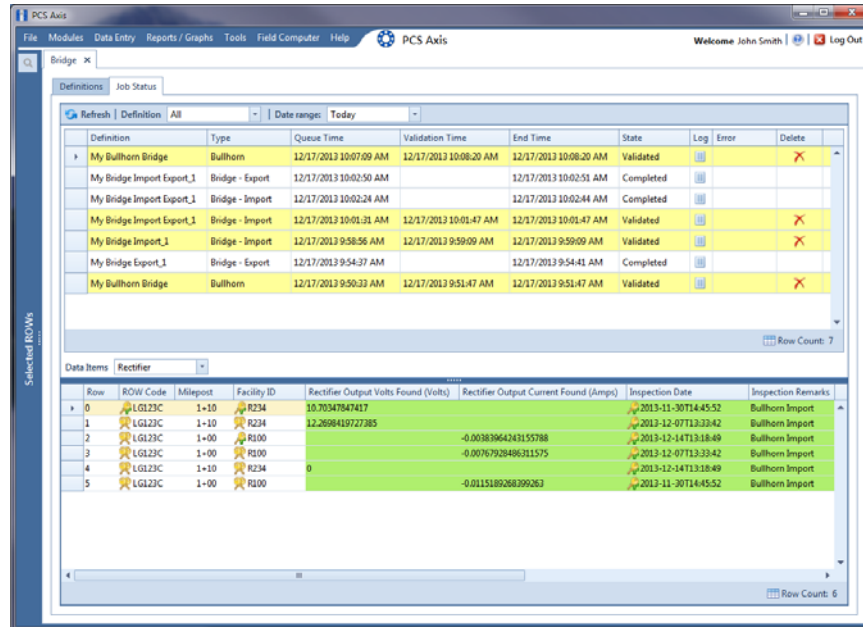

Figure 10-11. Job Status
- 15 To view the status of a Bridge session, click  **Job Status** in the *Definitions window* to open the *Job Status* window (Figure 10-11, page 464). Clicking  **Log** for a Bridge session opens the log file for the selected session.